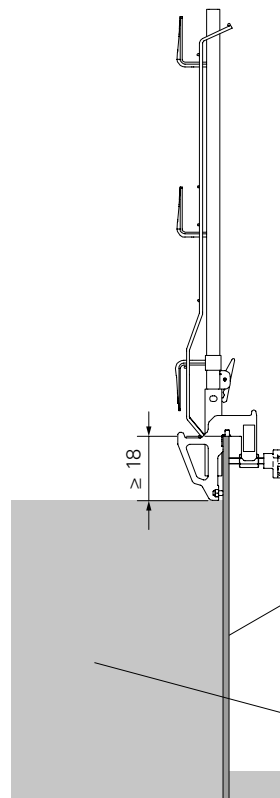

Fig. A2.11
1. Fit the three-winged nut (**4b**) in the direction of the lower level. (Fig. A2.11)